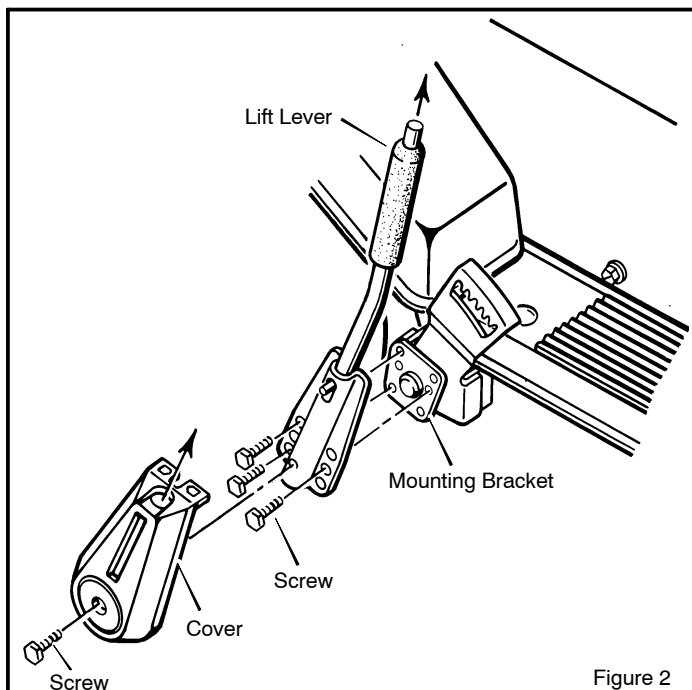

Figure 2
1. If the **lift lever** has the **cover** (Figure 2), remove the **screw** from the **cover**. Slide the **cover** up the **lift lever**.